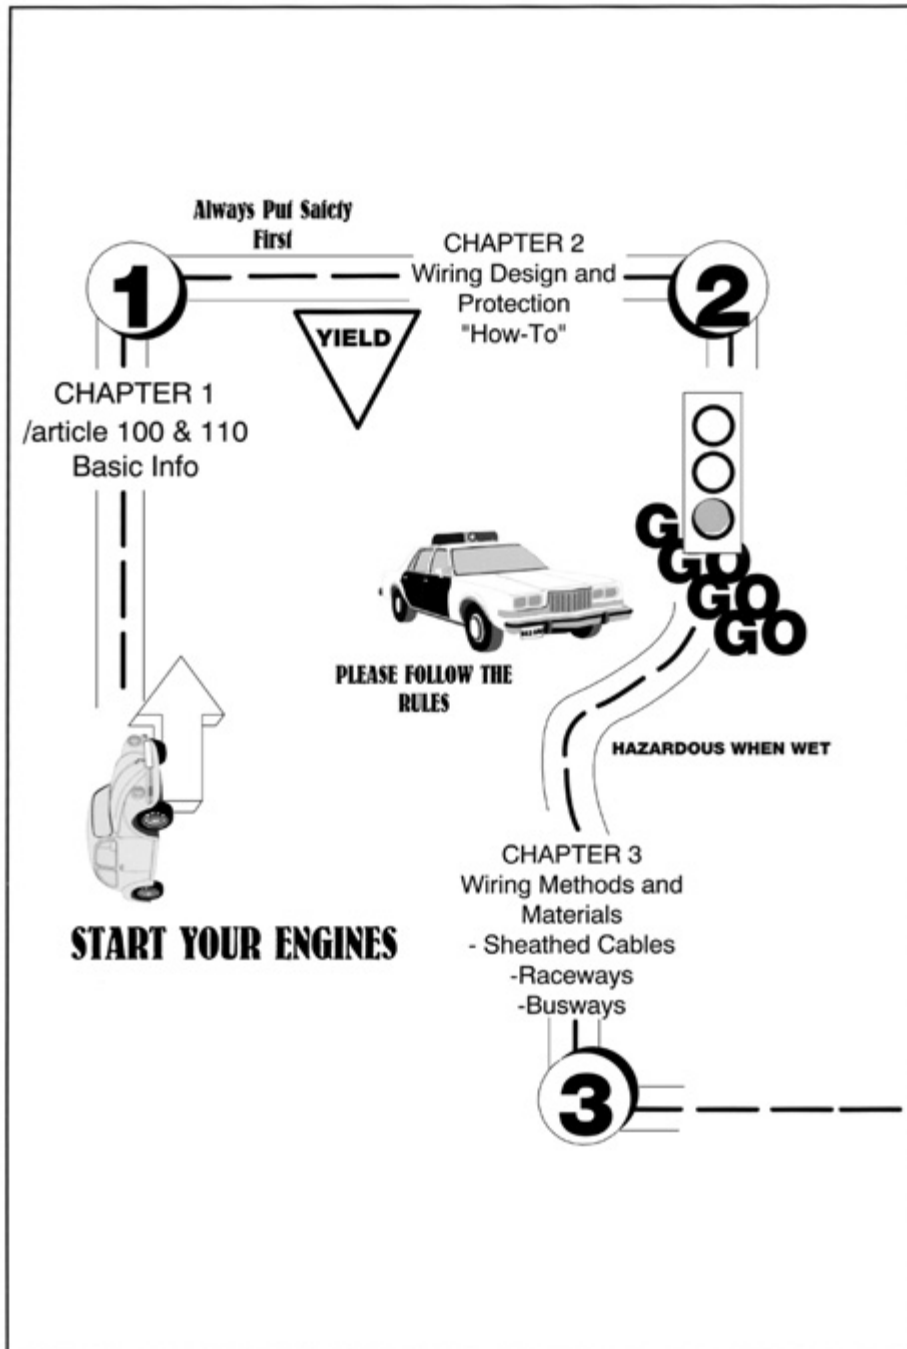

Figure 11.5 Become thoroughly familiar with Articles 90, 100, and 110 before continuing.
*Wiring Methods and Materials:* Chapter 3 has the rules on wiring methods and materials. The materials and procedures to use on a particular system depend on the type of building construction, the type of occupancy, the location of the wiring in the building, the type of atmosphere in the building or in the area surrounding the building, mechanical factors and the relative costs of different wiring methods (Fig. 11.5).